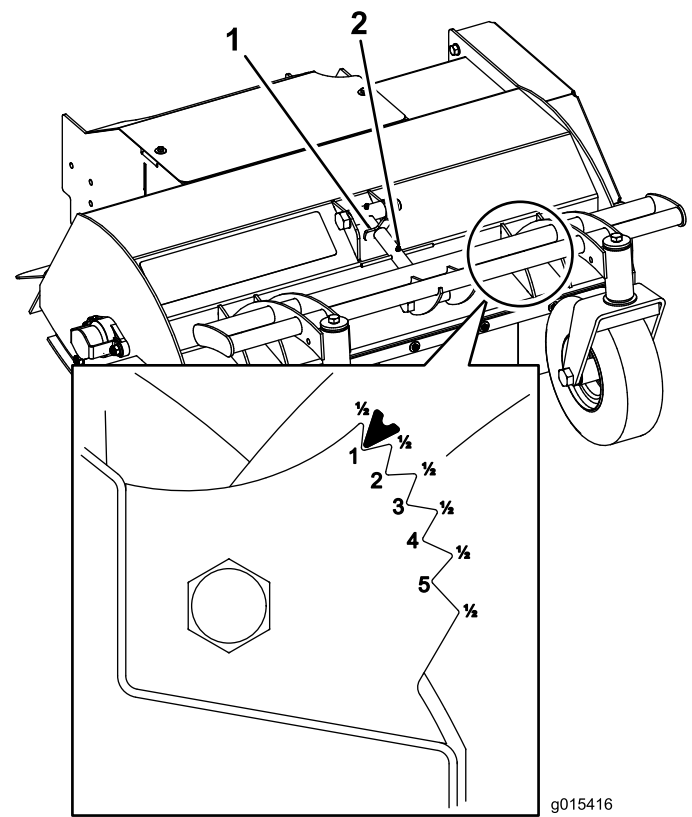

Figure 3
3. While facing the mower from the front, release the turnbuckle lock (Figure 3).
4. Turn the turnbuckle clockwise to lower the height of cut and counterclockwise to raise it until you reach the desired setting on the height-of-cut gauge (Figure 3).
5. Set the turnbuckle lock to lock the height-of-cut setting (Figure 3).